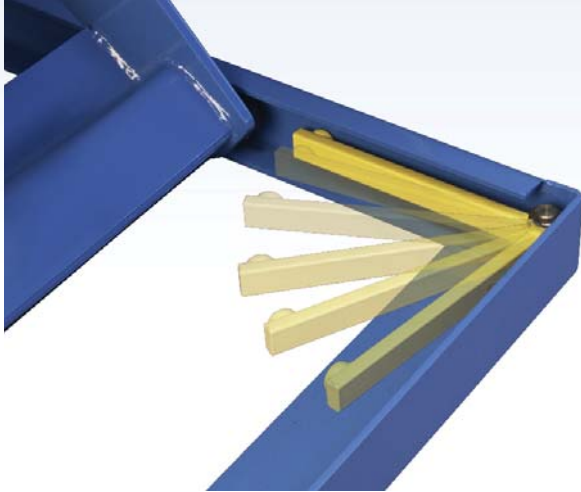

Figure 5 Maintenance Bar Operation
6. Move to the roller end of the lift and rotate each maintenance bar approximately 90° to its stored position. As shown in Figure 5, ENSURE both bars are in their stored position.